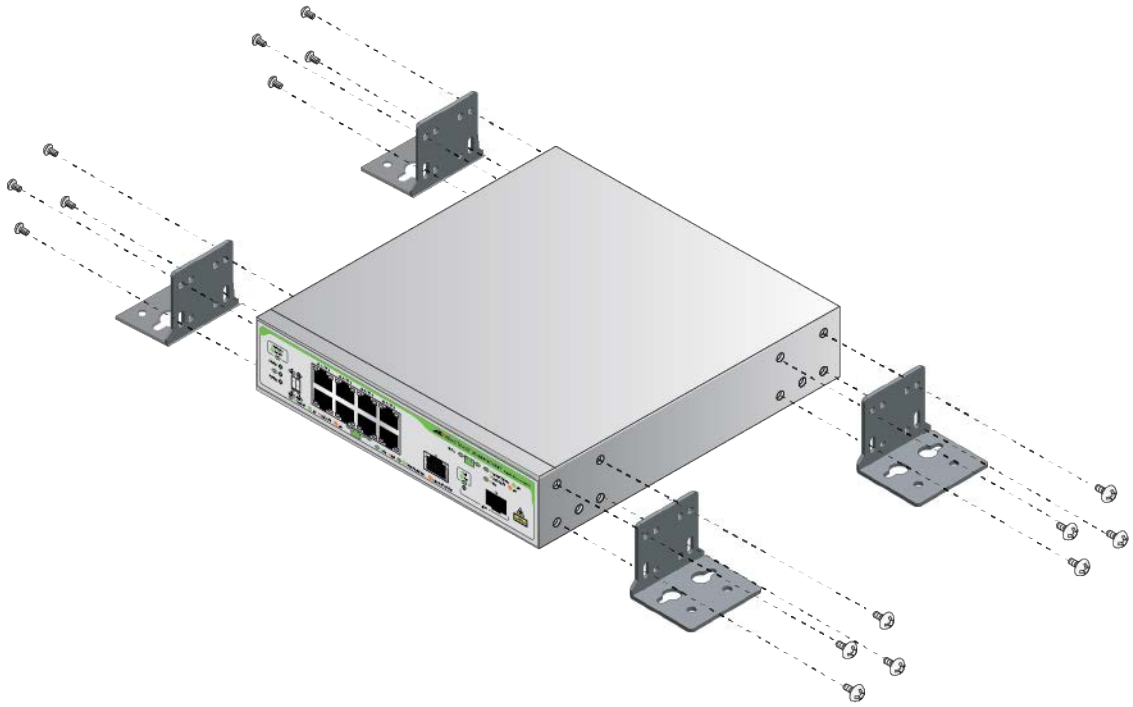

Figure 31. Attaching the Wall Brackets
3. Attach each bracket to the switch using four screws as shown in Figure 31 on page 60.